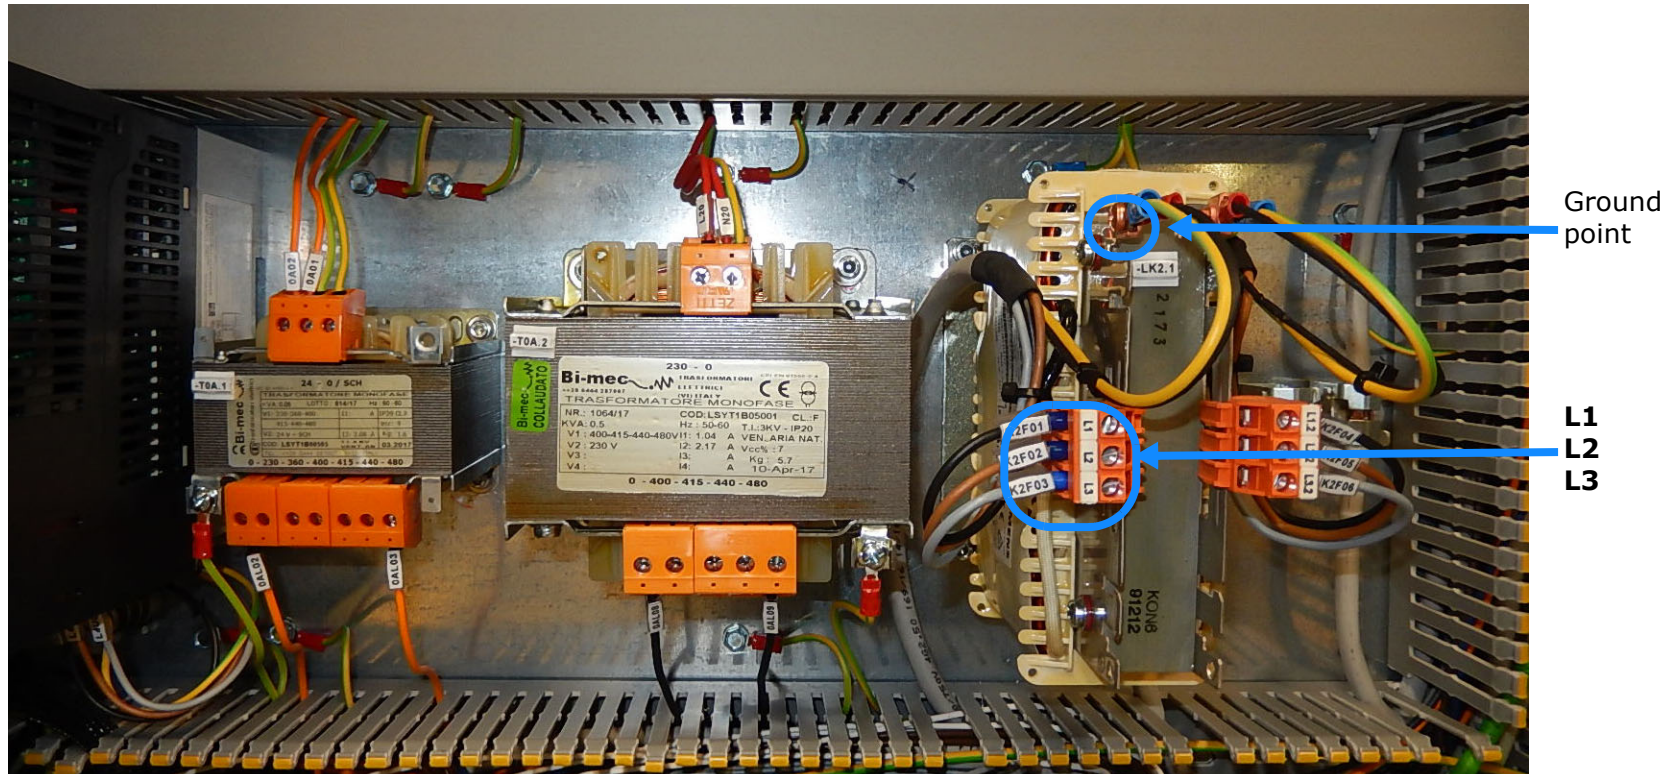

Figure 1-13: L1, L2, L3 TT/TN Configuration, with PE ground
2. Connect the main electric cable, L1, L2, L3, to the Smart Line Module, Figure 1-13.
3. The power OUT legs connect to the Smart Line Module, Figure 1-13, at L1, L2, and L3.